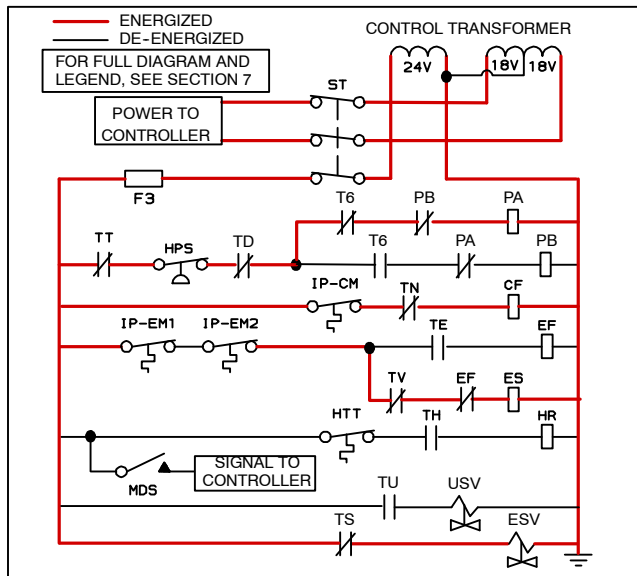

Figure 4-7 Frozen Mode
- With supply air temperature above set point and decreasing, the unit will transition to economized cooling with the condenser fan motor (CF), compressor motor (CH), economizer solenoid valve (ESV), low speed evaporator fan motors (ES) energized and the COOL light illuminated. (See Figure 4-7.)